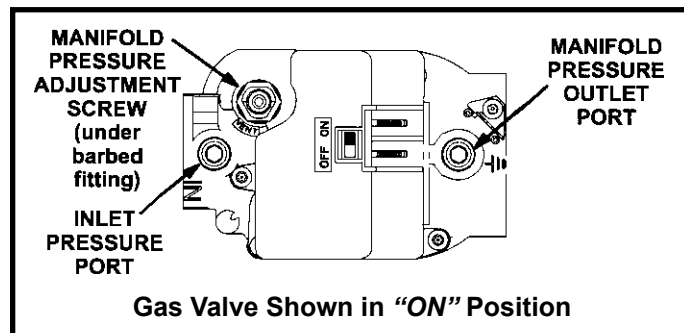

Figure 35
Gas Valve Operation (Figure 35)
6. Move switch on gas valve to OFF. Do not force. See Figure 35.
8. Move switch on gas valve to **ON**. Do not force. See Figure 35.